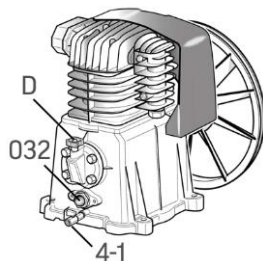

Fig. 4
2. Unscrew the oil fill plug (Fig. 4).
4. Fill in new oil through the oil filler opening until it reaches the required level (Fig. 4).